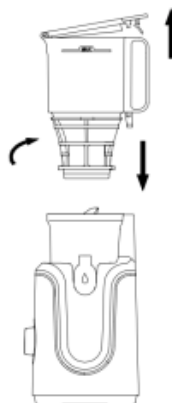

Fig3
- Open the lid and position the chute on the hopper, aligning the ▲ marker and twisting clockwise until it clicks into the safety lock. Ensure the ▲ arrow on the cover aligns with the lock symbol on the hopper. (Fig 3)